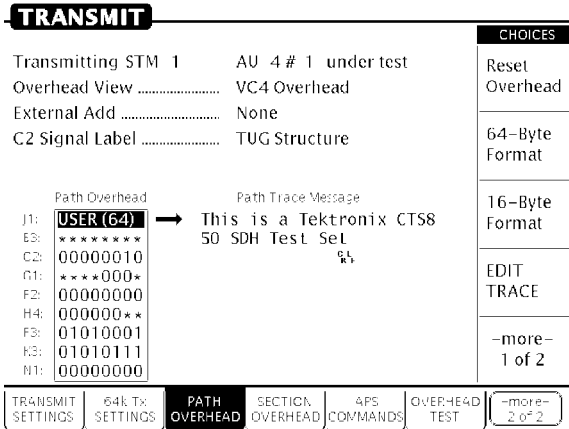

Figure 3 38: Editing the J1 Path Trace Byte
2. Select **EDIT TRACE** to edit the path trace message (see Figure 3 38).